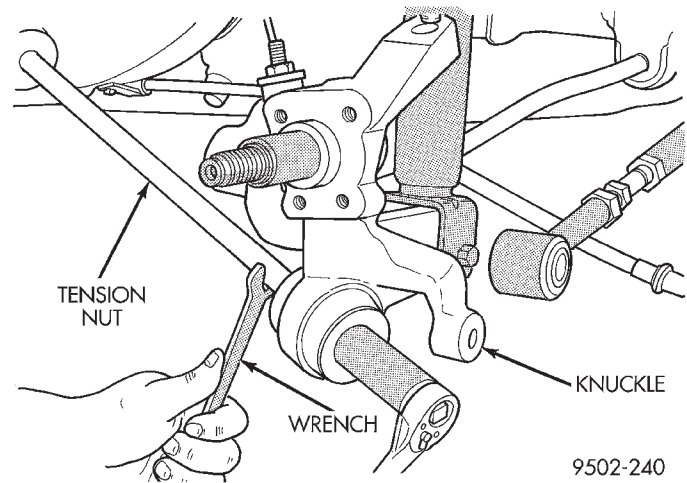

Fig. 17 Trailing Link Attachment To Rear Knuckle
(11) Remove the nut and washer attaching the trailing link to the rear knuckle. Use a wrench on the flat of the trailing link to keep it from turning when removing nut (Fig. 17).